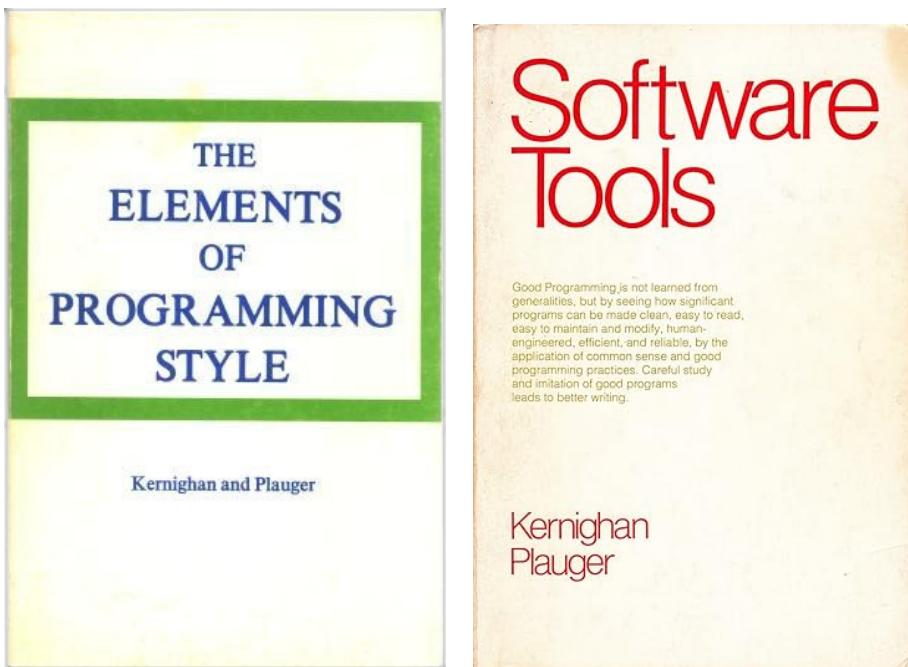

图 8: Unix troff 排版的早期书籍
Bell Labs 的 Brian W. Kernighan 和 P. J. Plauger 合写的《Elements of Programming Styles》第 1 版（图 8 左）出版，这是用 troff 排版的第一本书。^②
Brian W. Kernighan 和 P. J. Plauger 合写的《Software Tools》第 1 版（图 8 右）出版，扉页说“This book was set in Times Roman and Helvetica Regular by the authors, using a Graphic Systems phototypesetter driven by a PDP-11/45 running under the UNIX operating system.”